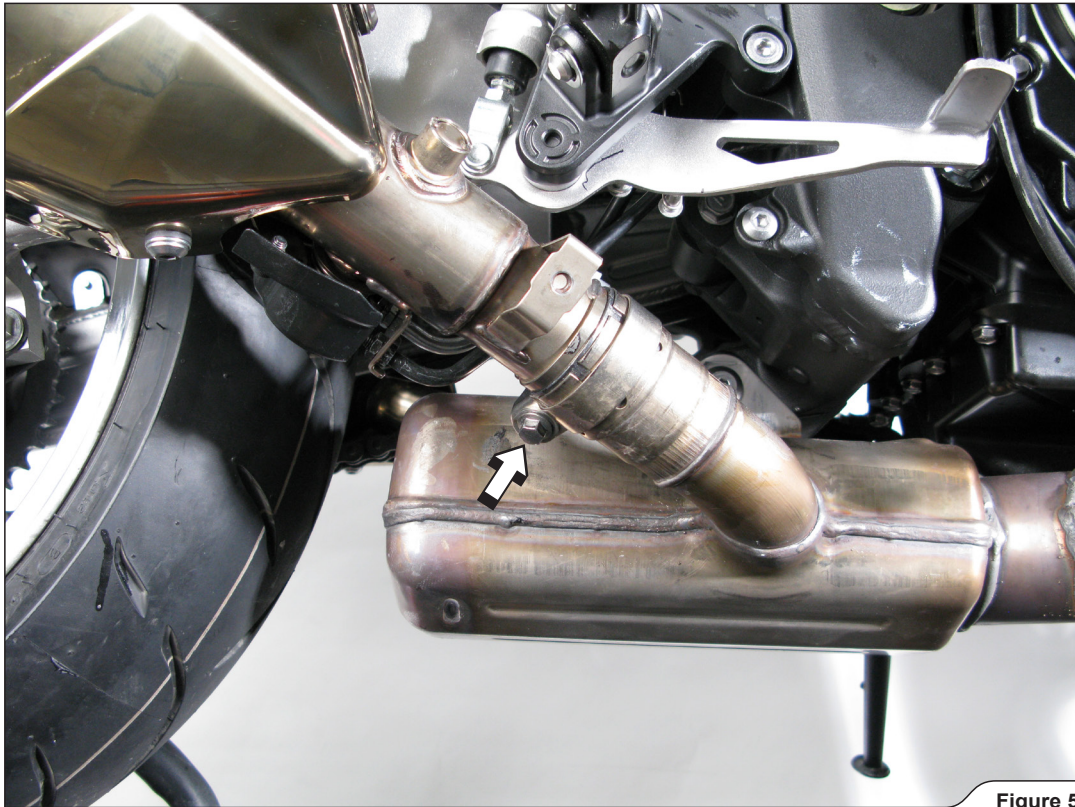

Figure 5
5. Untighten the marked metal clamp bolt and unscrew the muffler bracket bolt on both sides. Remove the mufflers off the motorcycle (Figure 5, 6).